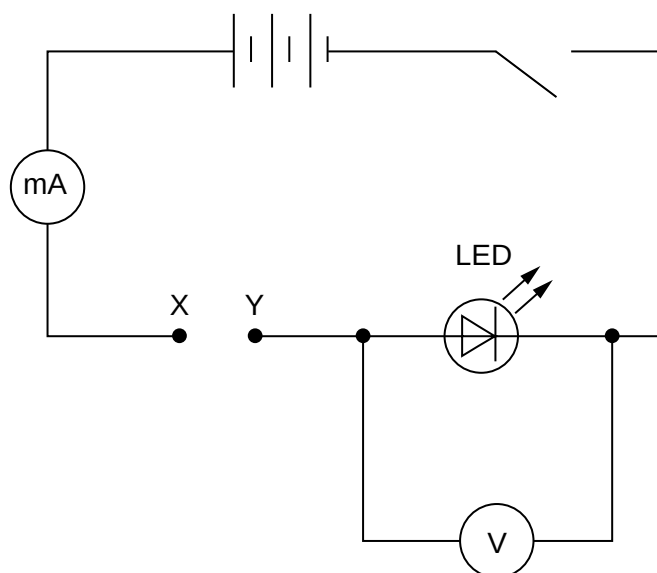

Fig. 4.1
Seven connecting leads to enable the Supervisor to connect up the circuit shown in Fig. 4.1.
- 3** The apparatus should be set up by the Supervisor as shown in Fig. 4.1. The points X and Y should be clearly labelled.
- 4** At the changeover, the Supervisor should remove the resistors from the circuit and open the switch. The apparatus should still be set up as shown in Fig. 4.1.